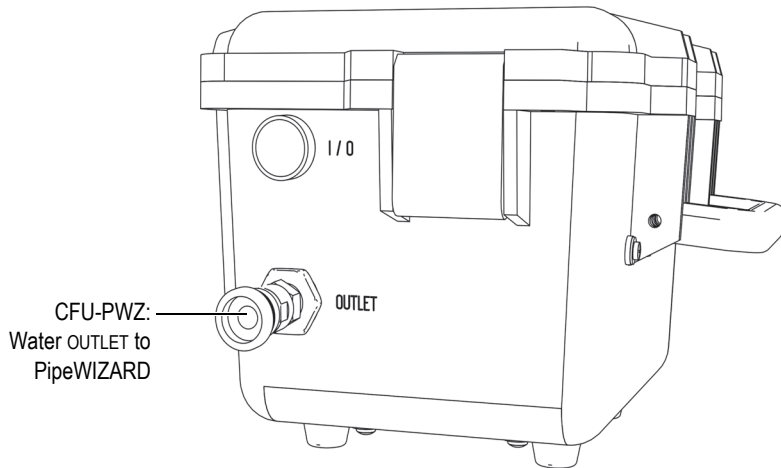

Figure 2-4 Metallic connection with female connector on pump
- The metallic quick-coupling connection with a female connector on the water pump. This connector is only used on the CFU-PWZ's water OUTLET (see Figure 2-4 on page 30).